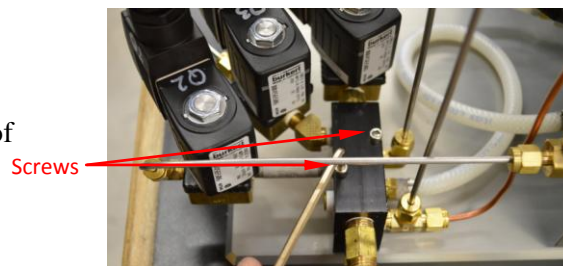

Figure 5
- d. Line up the two manifolds so that the two screws slide all the way in. Tighten the screws with an allen wrench to secure the manifold in to place. See Figure 5.